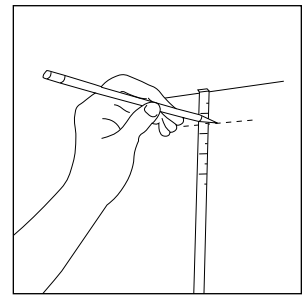

Fig. 2
2. Measure 1-1/2" down from the top of the Visulex cabinet and place the *bottom* of the aluminum hanger bar on this mark. (Fig. 2) Once you insure that it is level, mark all mounting holes and remove the hanger bar. (Fig. 3) Set hanger bar aside.